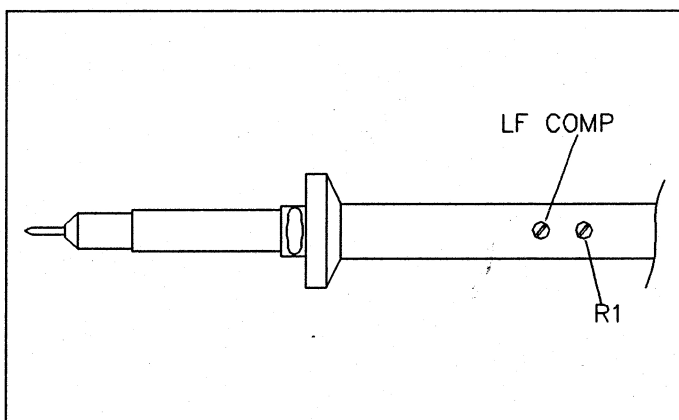

Figure 3. Location of Adjustments.
2. Using a low-reactance alignment tool, adjust the i-f compensation capacitor (shown in Figure 3) to obtain the squarest waveform corner.
4. Adjust R1 so that the oscilloscope displays the best rise time with the flattest response in the first 30 ns of the pulse (see Figures 3 and 4).